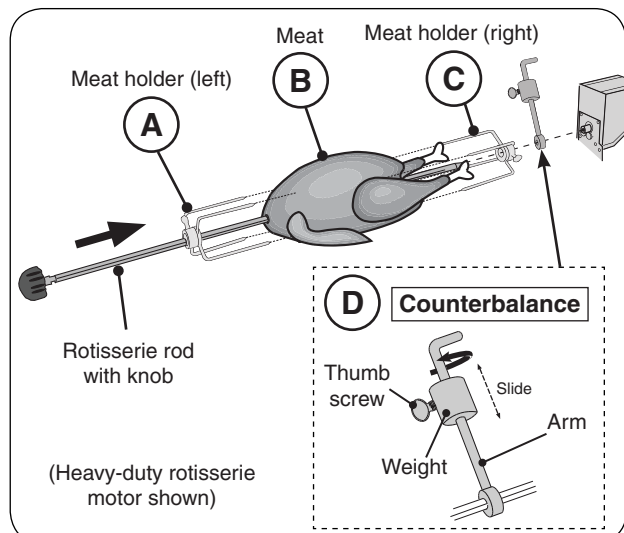

Fig. 28-3 Assemble rotisserie rod for cooking
4. Slide the left meat holder onto the rod and tighten (see Fig. 28-3, A).
5. Then slide meat onto the rod, followed by the right meat holder (see Fig. 28-3, B and C).
8. The counterbalance may then be attached to even weight distribution. Slide the counterbalance onto the rod next to the right meat holder (see Fig. 28-3, D). Loosen the arm and point it upward opposite the heavy side of the meat. Tighten the arm.
9. Slide the counterbalance weight up or down the arm until the rod rotates most evenly then tighten thumb screw (see Fig. 28-3, D).